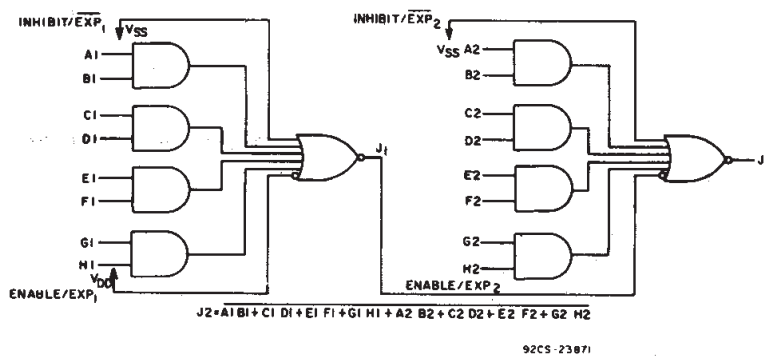

Fig. 10 - Two CD4086B's connected as an 8-wide 2-input A-O-I gate.
■ CD4086B contains one 4-wide 2-input AND-OR-INVERT gate with an INHIBIT/EXP input and an ENABLE/EXP input. For a 4-wide A-O-I function INHIBIT/EXP is tied to V_{SS} and ENABLE/EXP to V_{DD} . See Fig.10 and its associated explanation for applications where a capability greater than 4-wide is required.
Fig. 10 above shows two CD4086's utilized to obtain an 8-wide 2-input A-O-I function. The output (J1) of one CD4086 is fed directly to the ENABLE/EXP2 line of the second CD4086. In a similar fashion, any